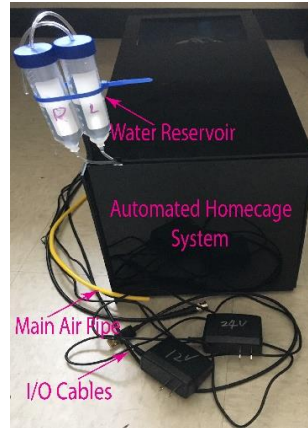

Fig.1.1
- The Automated Home-cage System is a fully enclosed system as shown in Fig.1.1.